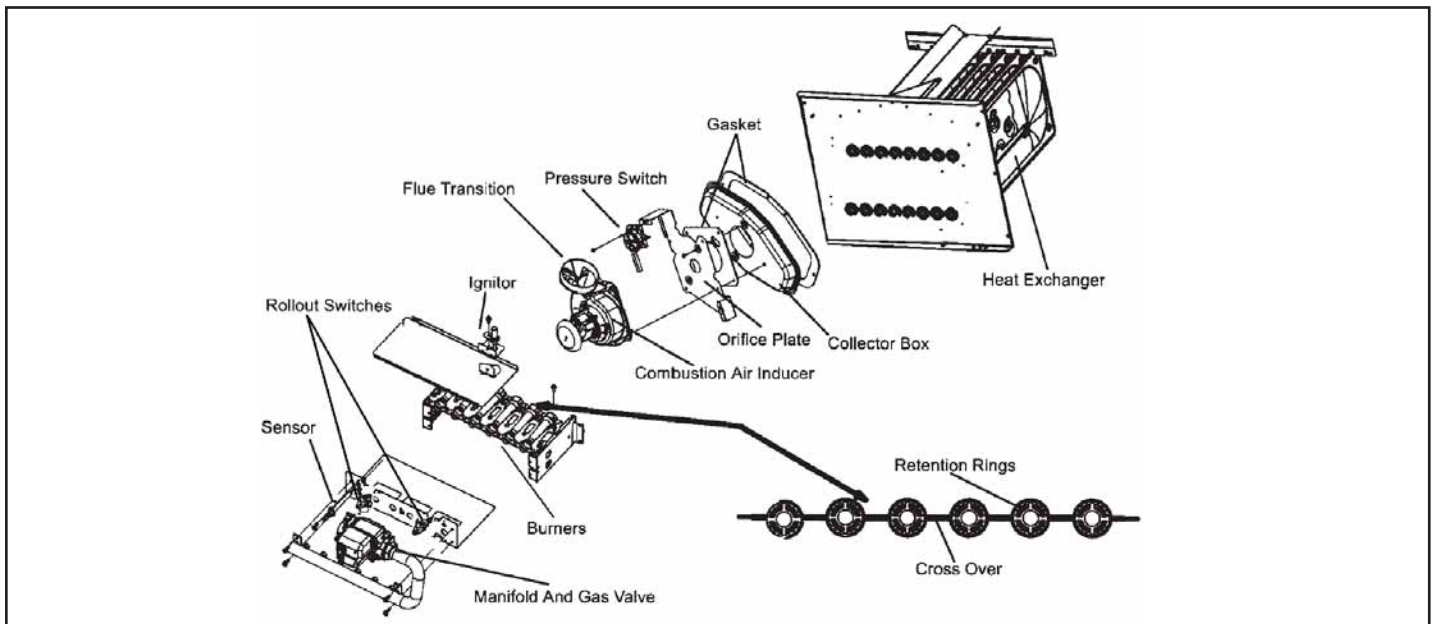

Figure 34. Burner, Combustion Air Inducer Assembly & Heat Exchanger Removal
11. To clean burners, run a vacuum cleaner with a soft brush attachment over the face of burners. Visually inspect inside the burners and crossovers for any blockage caused by foreign matter. Remove any blockage. Figure 34 shows burner detail.